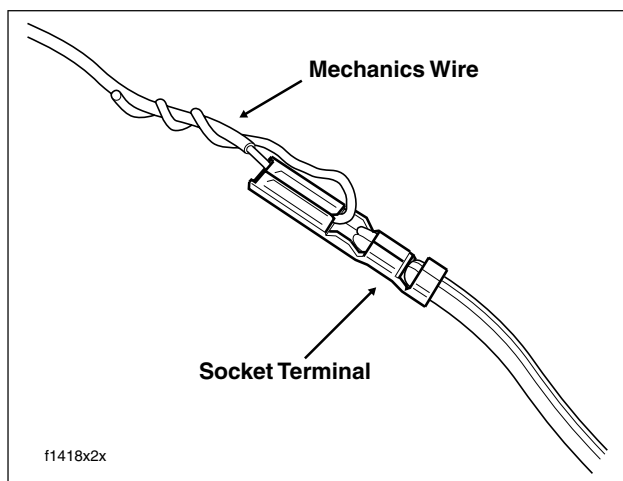

Figure 8-37. Fix Mechanics Wire to Socket Terminals
5. Obtain length of strong flexible wire for use as mechanics wire. Feed wire through opening in socket terminal and then loop back twisting end until tightly coiled around longer strand as shown in Figure 8-37.